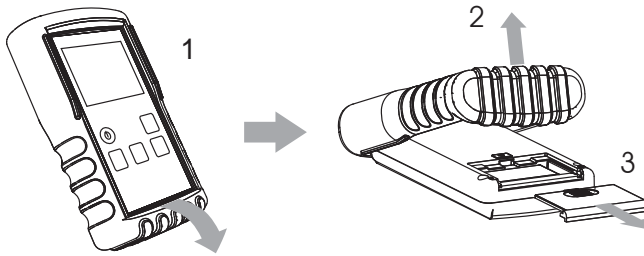

Fig 9 - Battery replacement
- 1-Release the rubber holster from plastic enclosure by pulling from the bottom of the holster as shown in the illustration (Fig. 9)